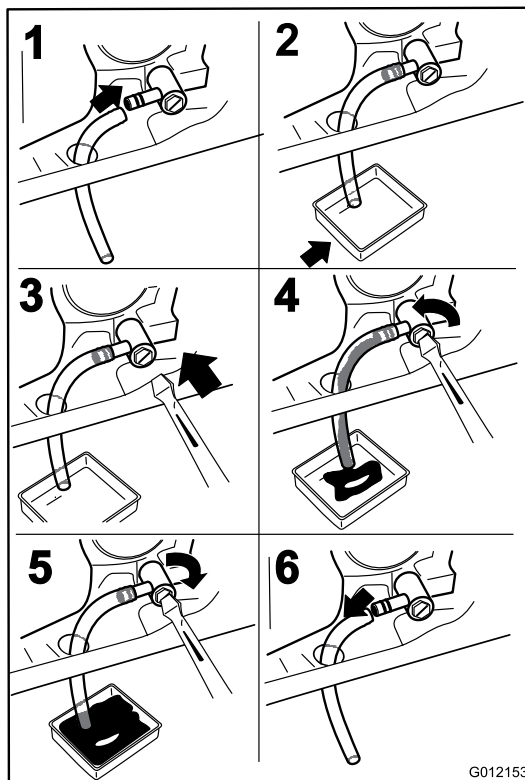

Figure 45
3. Stop the engine, remove the key, and wait for all moving parts to stop before leaving the operating position (Figure 45).